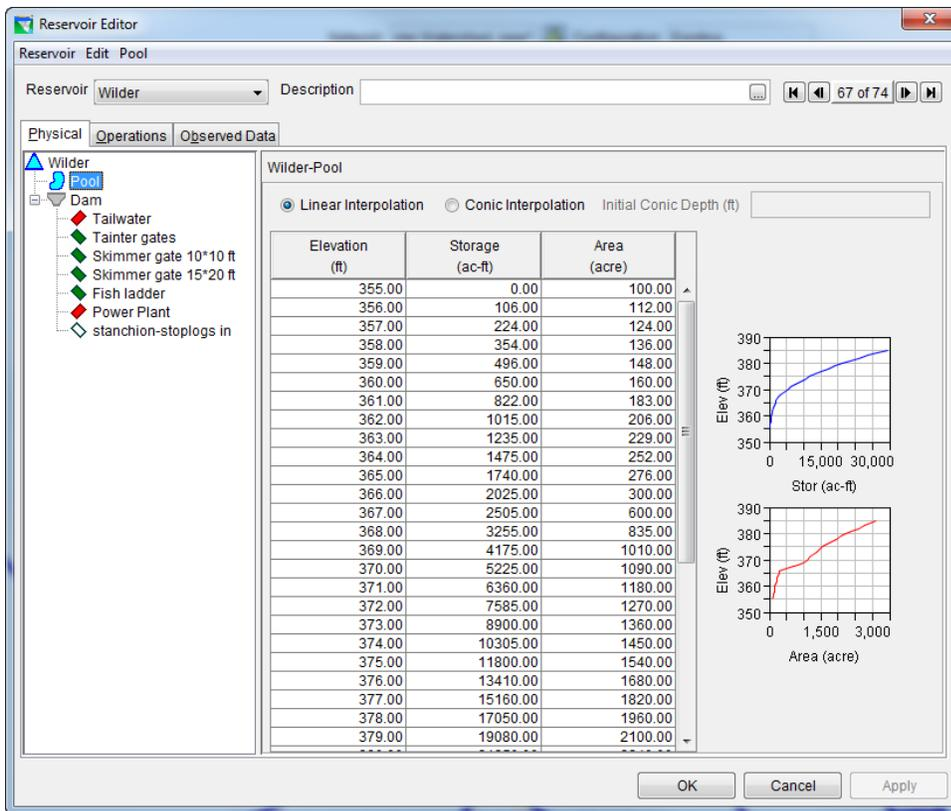

Figure 3: Reservoir Editor: Physical Tab -- Pool
The physical characteristics of the reservoir are separated between the Pool and the Dam in the HEC-ResSim model. The elevation-storage-area defines the pool as shown in Figure 3112. The dam consists of six types of outlets: (1) controlled Tainter gates, (2) controlled skimmer gate 10\*10 ft, (3) controlled skimmer gate 15\*20 ft, (4) controlled Fish Ladder, (5) uncontrolled stanchion-stoplogs in, and (6) power plant as shown in Figure 4.